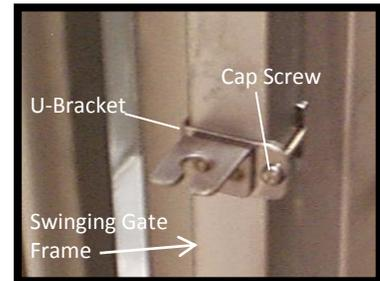

Figure 69: Handle Holder in Place on Swinging Gate
3. With a flat-blade screwdriver, remove the cap screw that secures the handle holder in place (Figure 69).